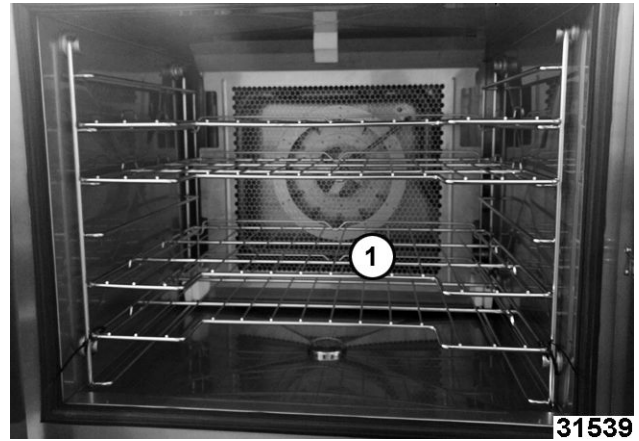

Fig. 82
- Remove all oven racks (1, Fig. 82).